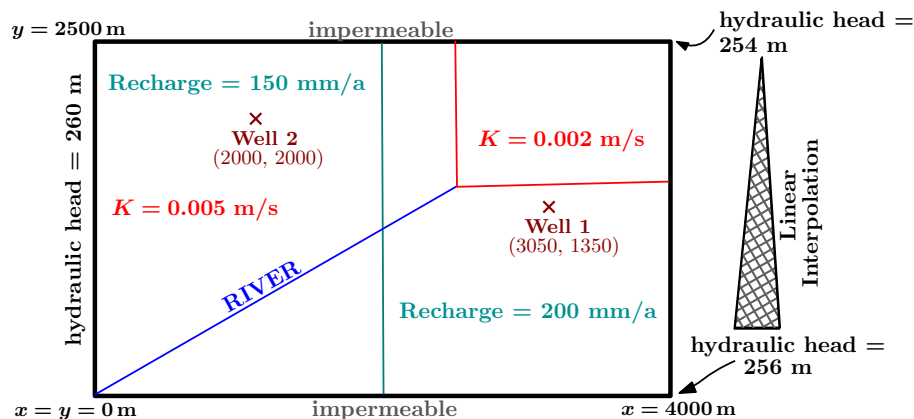

Figure 1: Conceptual setup of the 2D horizontally oriented model
The conceptual setup (Figure 1) will be simulated in order to gain insight of the impact of domain properties (K_s , R_s etc.) on the hydraulic head (h), consequently of the groundwater flow. Through visual analysis, from MODPATH simulations we will show the path of the streams towards the pumping-out well.
- !! Compare the ModelMuse output with your conceptual setup (Figure 1)
- type the following expression into the **input field**: 150/1000/365.25/86400 (no „=“ is required). The unit for recharge rate is now converted to m/s from the given data in mm/a, see Figure 1)